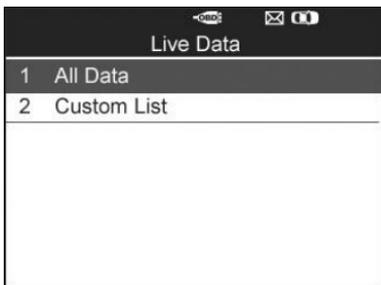

Figure 4-29
- 1) To retrieve customized live sensor data, use the **UP/DOWN** scroll button to select **Custom List** from **Live Data** and press the **Y** button (Figure 4-29).